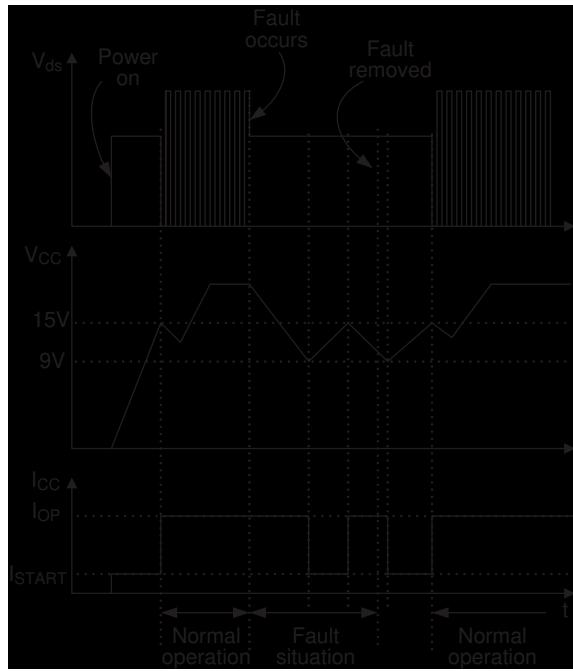

Figure 12. Auto Restart Mode Protection
– **Auto-restart mode protection:** Once the fault condition is detected, switching is terminated and the SenseFET remains off. This causes V_{CC} to fall. When V_{CC} falls to the under voltage lockout (UVLO) stop voltage of 9V, the protection is reset and the FSCQ-Series consumes only startup current (25µA). Then, the V_{CC} capacitor is charged up, since the current supplied through the startup resistor is larger than the current that the FPS consumes. When V_{CC} reaches the start voltage of 15V, the FSCQ-Series resumes its normal operation. If the fault condition is not removed, the SenseFET remains off and V_{CC} drops to stop voltage again. In this manner, the auto-restart can alternately enable and disable the switching of the power SenseFET until the fault condition is eliminated (see Figure 12).